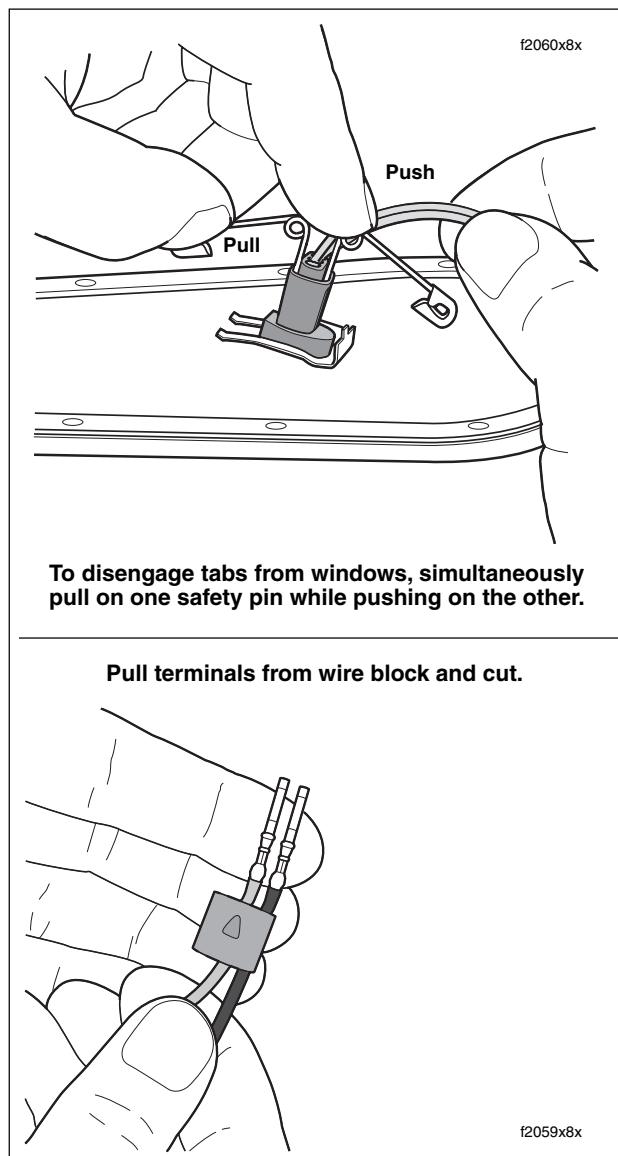

Figure 8-122. Remove Wire Block and Cut Terminals
- b. Obtain two safety pins. On each side of connector body, insert a safety pin between body and wire block until end of each pin appears in window. To disengage tabs from windows, gently pull on one safety pin while pushing on the other. See upper frame of Figure 8-122. With tabs released, gently tug on wires to release wire block from connector body.
- c. Pull the wire socket terminals out of the wire block. See lower frame of Figure 8-122. Cut off the socket terminals and back the wires out of the wire block.